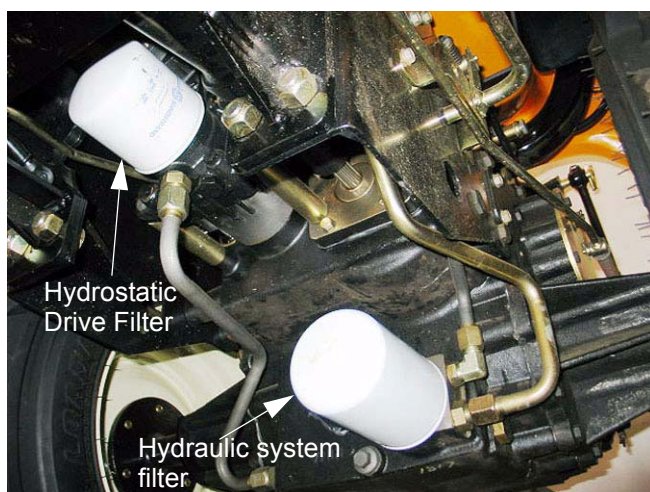

Figure 1.3
- 1.3. Filtration: The hydraulic system filter (P/N:723-0405) is located on a boss on the front surface of the transmission housing, adjacent to the mid-mount, 2000 R.P.M. P.T.O. shaft. The hydrostatic drive filter (P/N: 723-3014) is located on the front surface of the hydrostatic pump. See Figure 1.3.